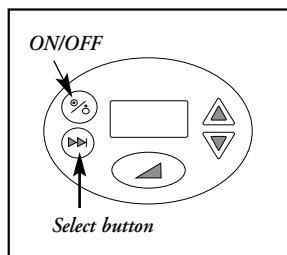

Figure 9
5. When you awake in the morning, press the ON/OFF button to turn the blower OFF **Figure 9**.